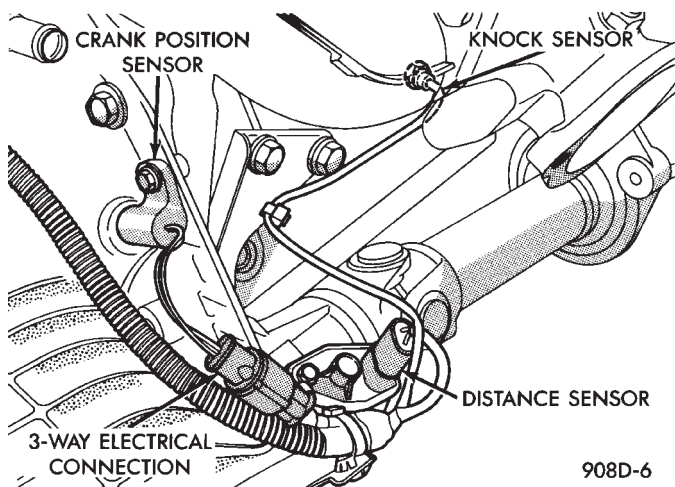

Fig. 6 Remove Crank Position Sensor (D.I.S. Ignition Only)
(12) On vehicles equipped with D.I.S. ignition system, remove crankshaft position sensor from bell housing (Fig. 6). For installation procedure refer to section 8D of this service manual.